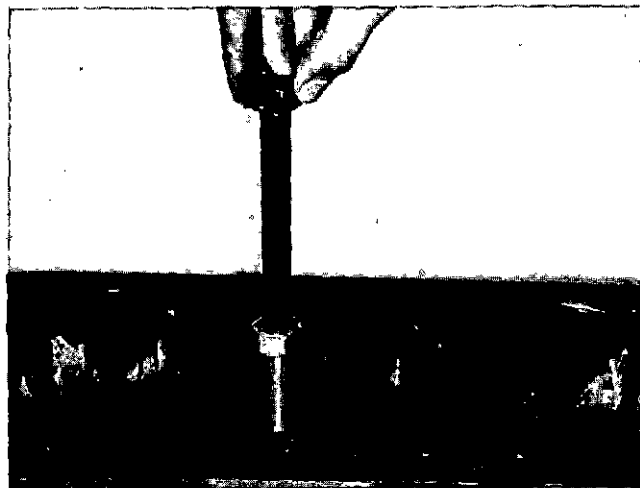

Fig. 1-36 (N101125). Install The Thread Insert.
15. Apply a light coat of sealant to the outside threads of the insert. Install the insert into the cylinder block until the end of the insert is even with the surface of the cylinder block, Fig. 1-36.